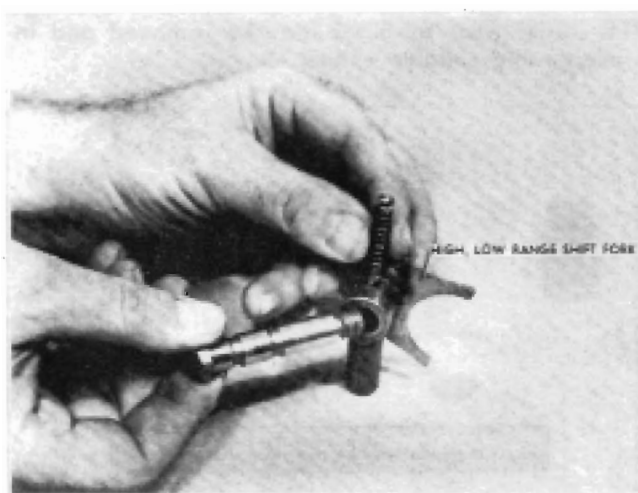

FIGURE 10
3. Assemble the high and low range shift fork assembly (Figure 10) by inserting the spring and ball in the detent hole. Using a $\frac{3}{16}$ " punch, press on the ball, compressing the spring. At the same time insert the detent bolt, withdrawing the punch as the bolt slides in place.